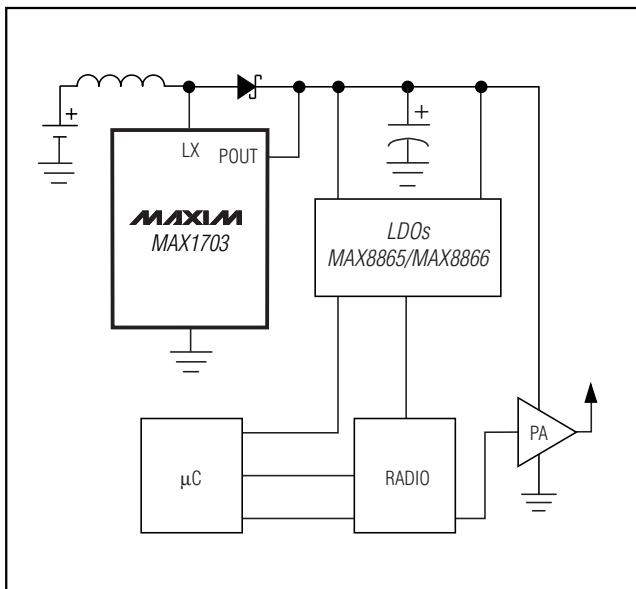

Figure 8. Typical Phone Application
The MAX1703 is ideal for use in digital cordless and PCS phones. The power amplifier (PA) is connected directly to the boost-converter output for maximum voltage swing (Figure 8). Low-dropout linear regulators are used for post-regulation to generate low-noise power for DSP, control, and RF circuitry. Typically, RF phones spend most of their life in standby mode with only short periods in transmit/receive mode. During standby, maximize battery life by setting $CLK/SEL = 0$; this places the IC in low-power mode (for the lowest quiescent power consumption). See *Gain Block* section for information on configuring an external MOSFET as a linear regulator.